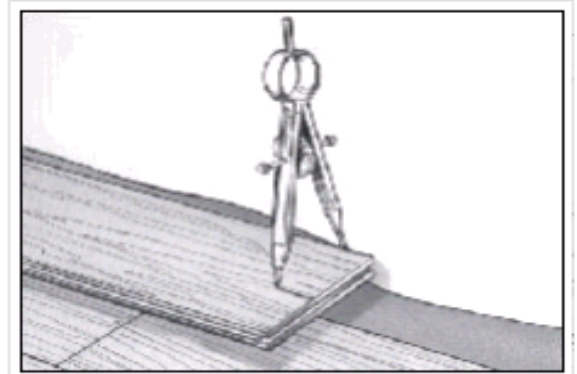

Fig. 5
2. Use dividers or a 1" (2.54 cm) spacer turned sideways to mark the contour (Fig. 5).